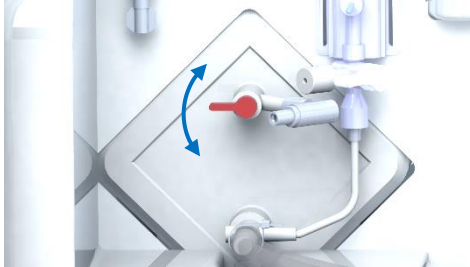

Figure 13: Air valve on oxygenator
- De-air the oxygenator via the sample port by using a syringe. First remove the cap on the sample port. Turn the red de-air valve, see figure 13, on the oxygenator down (pre arterial filter) and aspirate until air is removed. Switch the red valve up (post arterial filter) and aspirate again until all air is removed. Switch valve to closed position (middle position) and place the cap on the sample valve.
Sampling of the perfusion fluid is performed from the oxygenator via the sample port (figure 7, item 6) by using a syringe. Turn the sample valve (figure 7, item 12, and figure 13) on the oxygenator down to take a sample from the pre arterial filter. Turn the valve up to take a sample from the post arterial filter. Switch the valve to the closed position (middle position) after sampling. To avoid accidental leakage, the perfusion set is equipped with an automatic closing sample port.